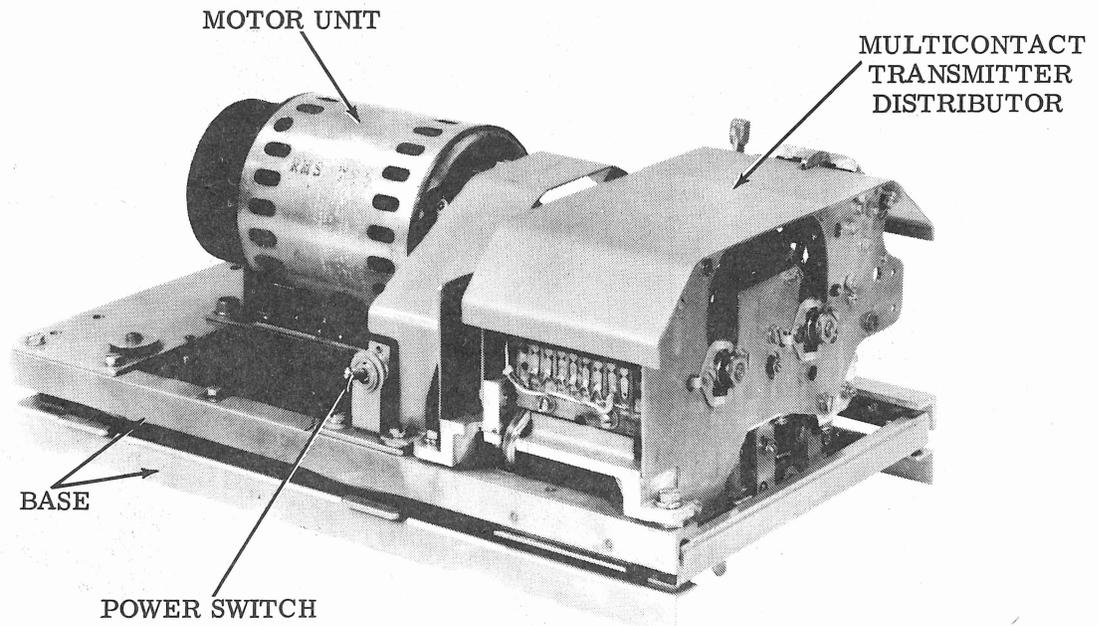
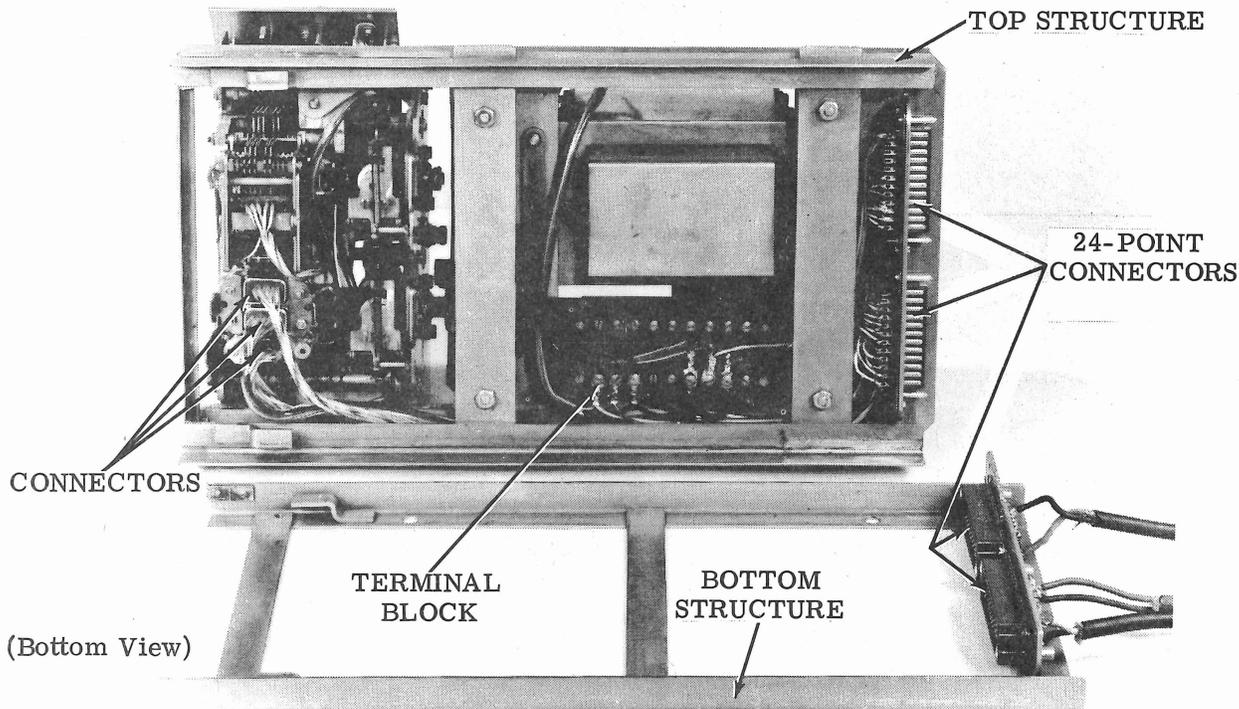

Figure 3 - Multicontact Single Mounting Transmitter Distributor Base (Transmitter Distributor and Motor Unit in Place)
Figure 4 - Multicontact Single Mounting Transmitter Distributor Base (Transmitter Distributor and Motor Unit in Place)
2.09 This multicontact transmitter distributor base is similar to the base previously described. The frame structure is built in two pieces. The top structure serves as a mounting for a motor unit and the transmitter distributor (Figure 3). The bottom structure serves as a mounting for the top structure. Two 24-point connectors are mounted at the rear of the bottom structure for electrical connection to external apparatus. Two 24-point mating connectors are mounted to the rear of the top structure as a terminal for internal electrical connections. The top structure may be moved forward to disconnect all electrical connections or backward to connect them (Figure 4).